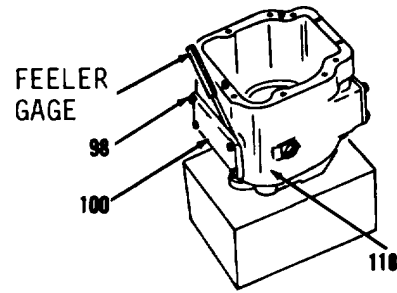

Figure 10-49.
16. Using feeler gage, measure gap between body (118) and cover (100, Figure 10-49) without shim(s). Measure at four bolt (98) locations. Note the average thickness and add 0.008 inch. This will be the total shim thickness to be added to cover without shim(s). If the thickness of shim(s) required is less than 0.005 inch and more than 0.025 inch, add thickness of the shim(s) required from feeler gage measurement plus 0.008 inch to the 0.015 inch shim thickness of the other cover. Divide the total thickness of the shim(s) evenly and install the same thickness of shim(s) on each cover (100).